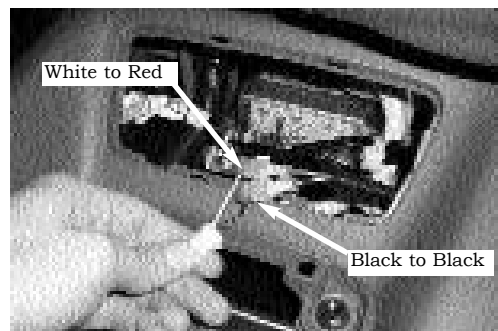

FIGURE 24
3. ATTACH THE **RED WIRE** FROM THE LUMBAR HARNESS TO THE FEMALE T-TAP ON **WHITE WIRE**. **FIGURE 24**
4. ATTACH THE **BLACK WIRE** FROM THE LUMBAR HARNESS TO THE FEMALE T-TAP ON **BLACK WIRE**. **FIGURE 24**